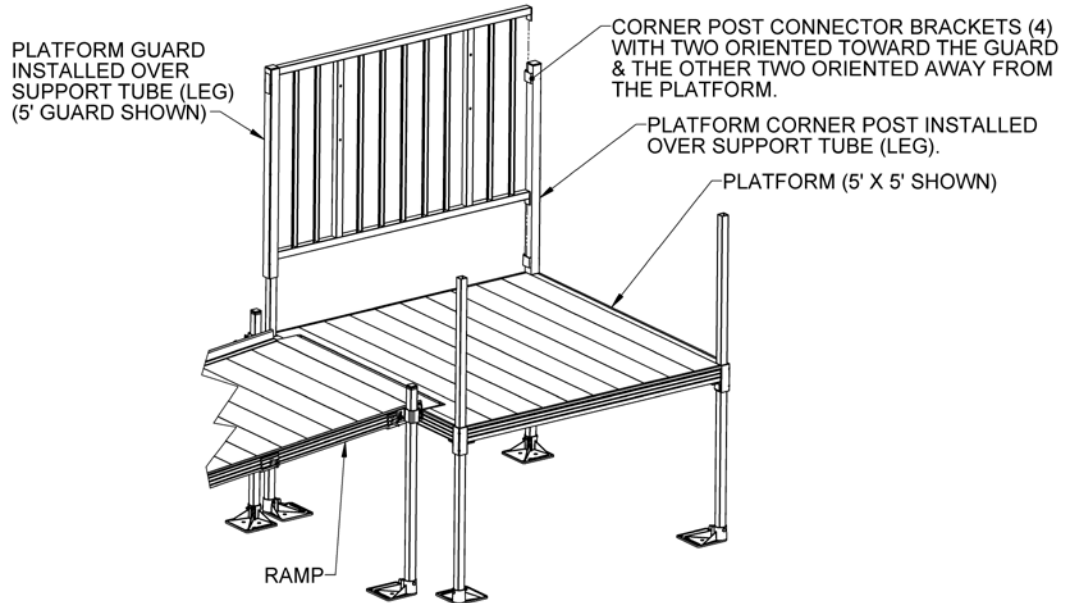

FIG. 28
- 2.6 If the system requires an intermediate "resting" platform, the ramps must be positioned in the center of the platform (see FIG. 28 and FIG. 32).
- 5.4.1 Place one guard corner post over the support tube (leg) extending out of the platform corner pocket adjacent to the door and opposite ramp. Two of the corner post connector brackets should be oriented toward the support tube where the guard will attach and the other two away from the platform (FIG. 28). Do not tighten set screws.
- 5.4.2 Place a guard over the support tube (leg) opposite the corner post connector brackets and engage tabs on the guard into connector brackets on corner post (FIG. 28). Refer to detail in Fig. 26 for engaging tab in connector bracket. Do not tighten set screws.
- 5.8.2 Installation of the guards on a side is the same as the first two steps of section 5.4 Refer to FIG. 28.